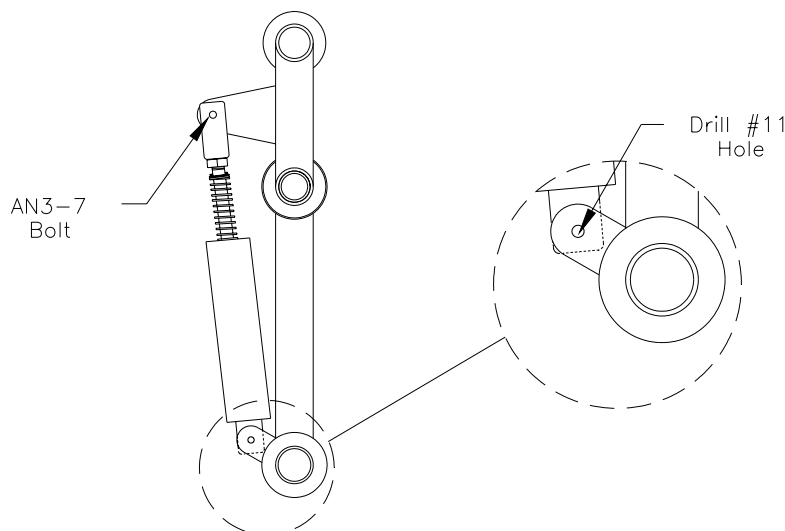

Figure 20.1.2
2) Assemble the brake slave cylinder with the threaded fork on the end. Bolt the fork to the brake pedal lug with an AN3-7 bolt and castle nut (AN310-3). Drill a 3/16" hole through the bottom lugs and brake slave cylinder. Figure 20.1.2